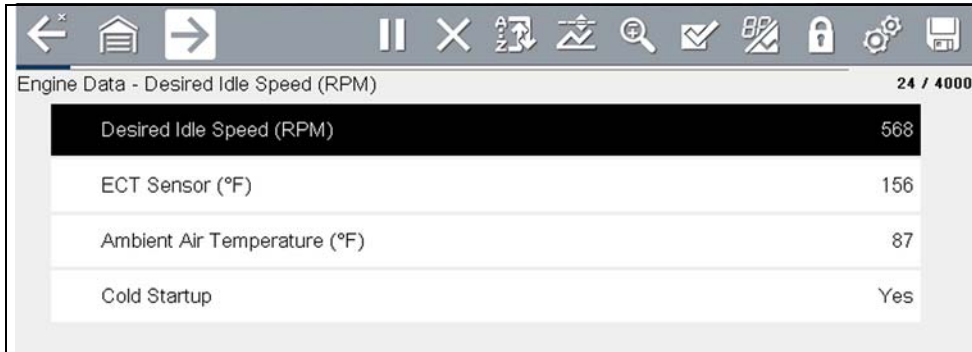

Figure 5-14
4. The custom list displays (Figure 5-14).